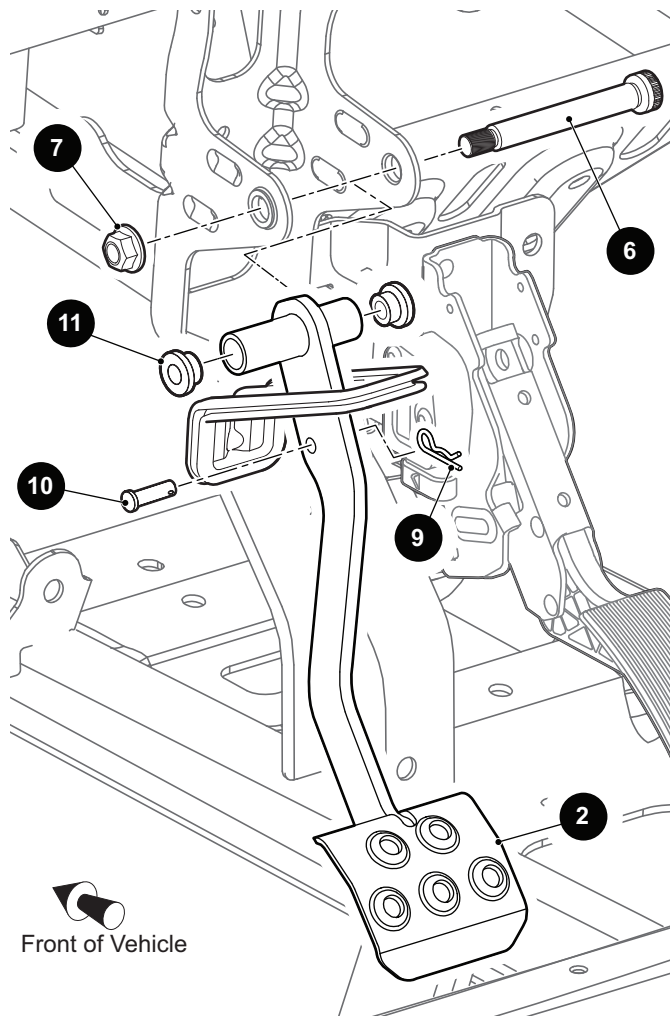

Fig. 10 Brake Pedal Removal
- Remove pivot bolt (6), bushings (11) and lock nut (7) (Ref. Fig. 10).
- Tighten bolt (6) and nut (5) to the torque specified below.